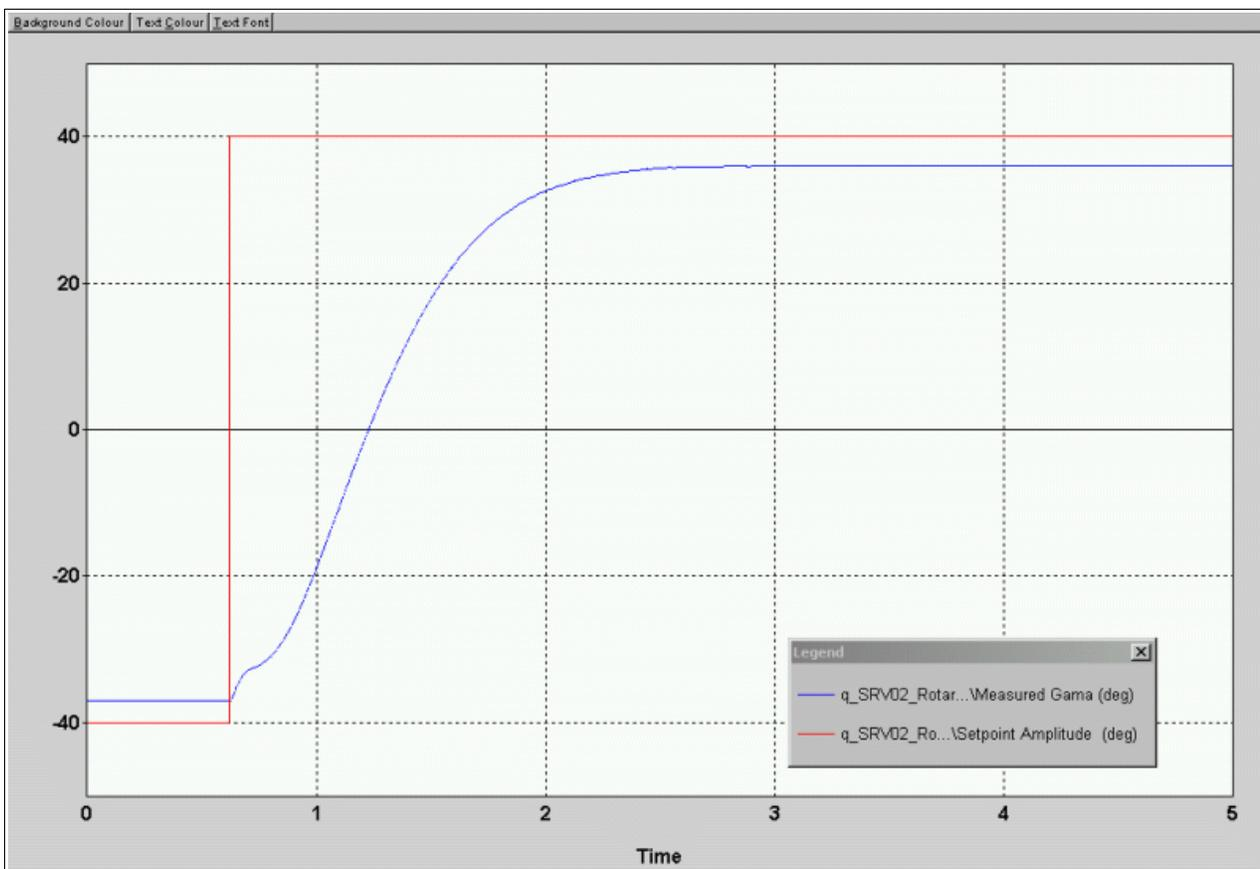

Figure 5 - Gamma Response
- iii. In part II of the lab, you implemented the controller on the physical plant. Make sure to include the measured gamma plot to a setpoint command similar to Figure 5.